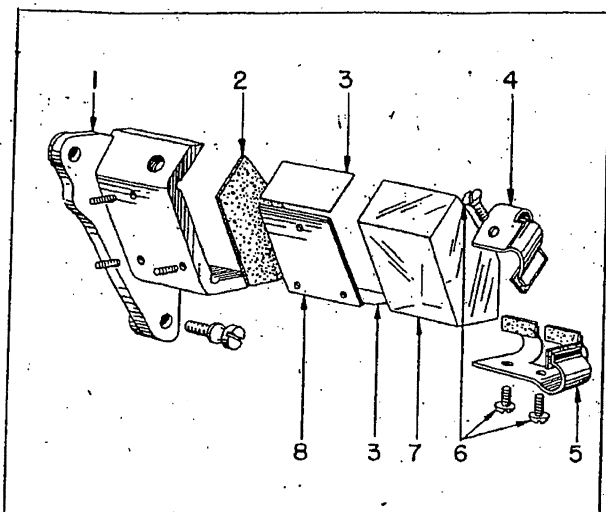

Figure 22—Fixed Prism Assembly
f. FIXED PRISM ASSEMBLY. (See figure 22.)—To the fixed prism holder (1) add the cork packing (2), adjusting plate (8) and two pieces of fish paper packing, fixed prism, lower clamp (5) and upper clamp (4), securing them with three binding head screws (6).
KEY TO FIGURE 22